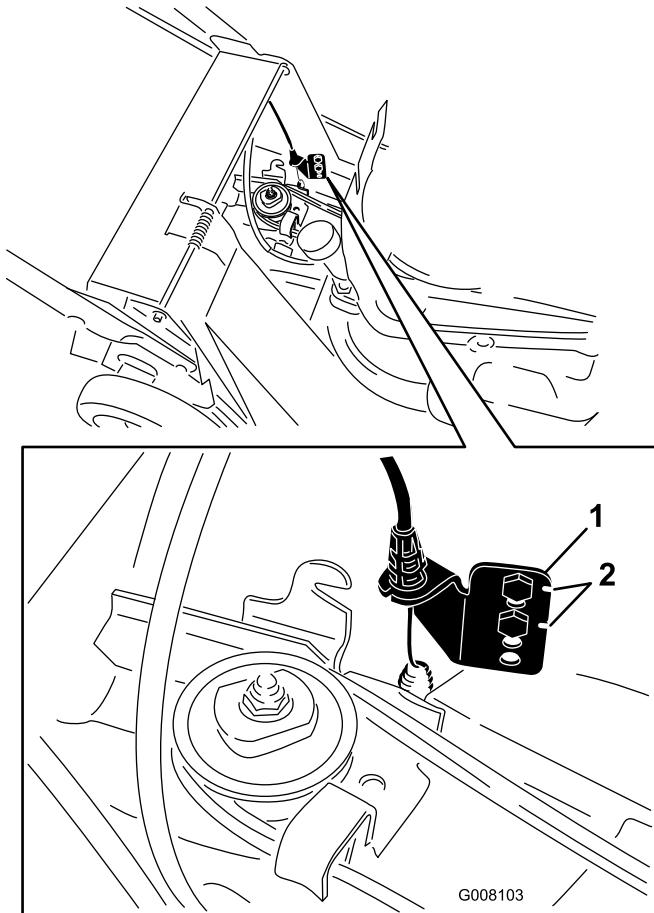

Figure 27
7. Remove the screws from the lower anchor bracket (Figure 27).
Note: The lower belt cover has been removed in Figure 27 for the purpose for clarity. It is not necessary to remove the lower belt cover to perform this procedure.
8. Move the lower anchor bracket up one hole (Figure 27).
Note: When you install a new belt, move the lower anchor bracket to its original factory position, which is indicated by the notches next to the holes in the bracket (Figure 27).